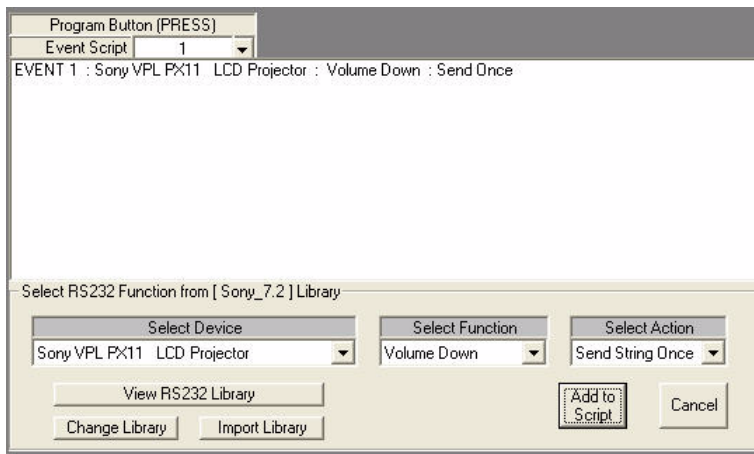

FIG. 103 Button 1 - Add Sony VPL PX11 LCD Projector "Volume Down" Command to Script
- Choose the "Volume Down" command (in the *Select Function* drop-down menu) and click **Add To Script** to add it to the Event Script (FIG. 103):